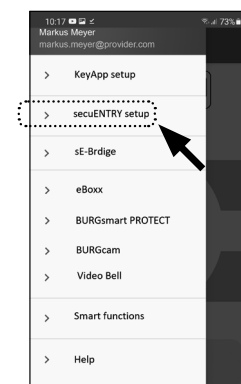

Fig. 28
- 2 Tap on the menu item "secuENTRY setup" (Fig. 28).